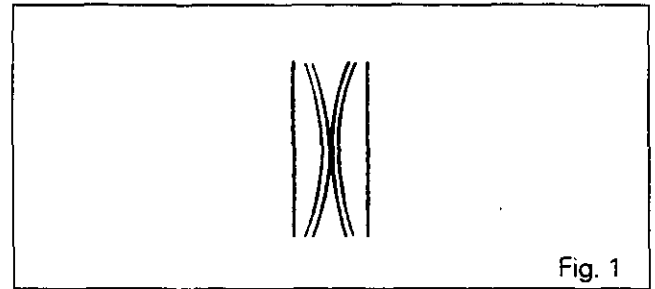
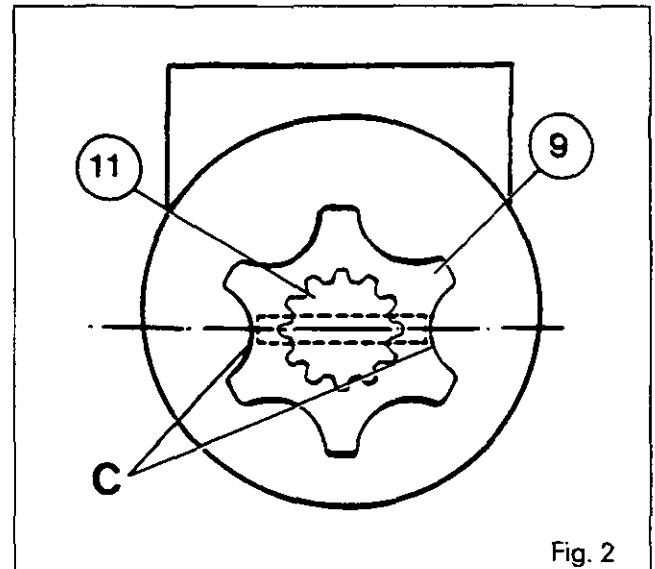
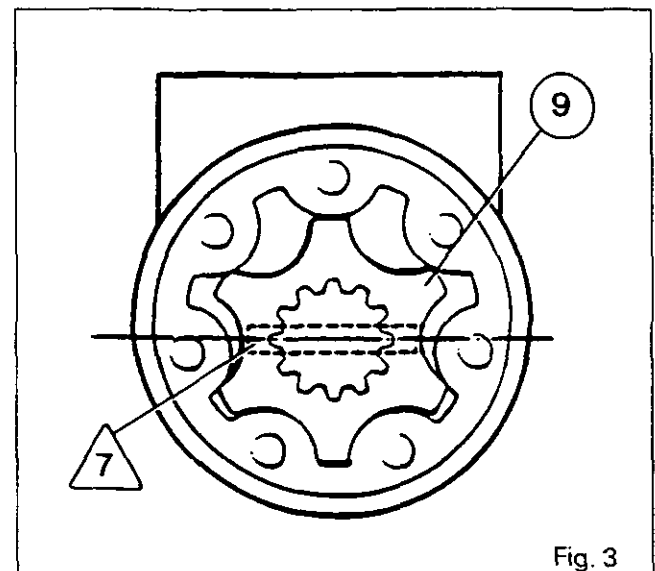

Fig. 1
Fig. 2
Fig. 3
16. Refit the check valve (26).
17. Using special tool MS62A, fit the seal /19\, the O-ring (17) and the kin-ring (15).
18. In the holes for the shock valves (20) place the balls and the springs. Screw in the threaded rings. Fit the seals and tighten the caps.
19. In the hole for the relief valve (18) place the valve and the spring. Screw in the threaded ring. Fit the seal and tighten the cap to a torque of 40-60 Nm.
20. Fit the spool valve (25) into the sleeve (27). Position the centring springs /13\ as shown in Fig. 1 and fit the pin /7\ using special tool MS63..
22. Fit the washers /12\ and (16) with the chamfer of the washer /12\ facing towards the centring springs /13\, and with the needle roller bearing (14) between them.
24. In the receptacles of the suction valves (23) place the two balls and the two pins.
25. In the receptacle of the non-return valve (22) place the ball and screw on the threaded ring.
26. Position the connecting shaft (11).
27. Fit the O-ring (28) and the distributor plate (29).
28. Fit the rotor (9) in such a way that two of the «C» shaped hollows are in the axis of the aperture of the shaft (11) (Fig. 2). Refit the spacer (10).
29. Place the O-rings (5) and (8) on the stator (6).
30. Whilst taking care not to move the rotor (9), fit the stator (6). Then move the stator so that its fastening holes coincide with those of the distributor.
- Note: The rotor (9) and the pin /7\ must be in the position shown in Fig. 3.**
31. Refit the cover plate (4).
32. Refit the screw /2\ (in the position marked upon disassembly) and the screws (1) with their seals (3). Tighten alternately to a torque of 30- 35 Nm.
When the main functions of the low-pressure system have been satisfied, the oil flows through the 17 bar distribution valve (3) and travels towards the oil cooler (13). It enters the oil cooler and passes into the lubrication line L (Fig. 2), connected to the 17 bar distribution valve through a unit equipped with a valve set to 0.7 bar (Fig. 3 Section 9H01) which supplies the master cylinders (residual pressure).
When the oil is cold, the 5 bar valve opens in the 17 bar distribution valve and enables a quantity of oil to pass directly into the lubrication line L (Fig. 3).